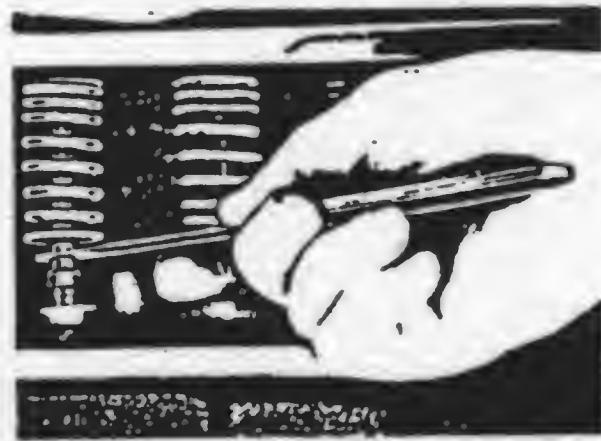

FIG. 17 VALVE TAPPETS AND SPRINGS
16. *Valve Tappets.*—Disconnect the tubes from the valve spring cover, remove the cover screws and the cover. Crank the engine slowly by means of the hand crank and note when the intake valve of No. 1 cylinder begins to open. Then turn the crank one full revolution further. This places the camshaft in the correct position for checking or readjusting both tappets of No. 1 cylinder. Check the clearances with a feeler gauge, (Fig. 17). The
up against the cylinder block, (Fig. 17). Then install the valves, each in its proper seat. Using a valve valves which are in closed position and insert the valve spring locks with a valve key inserting tool. If no key inserting tool is available, hold keys in place by sticking them to valve stem with grease. Crank engine until other valves are closed and install the remaining keys.
(2) Adjust the valve lappet to valve stem clearance to  $.014''$ , (Fig. 17). Remove cloth or waste from valve chamber.
(3) Clean top of block and pistons of all foreign matter and install cylinder head gasket. Clean carbon from cylinder head and wipe off all foreign matter, then install over studs on cylinder block. Install oil filter bracket. Install cylinder head